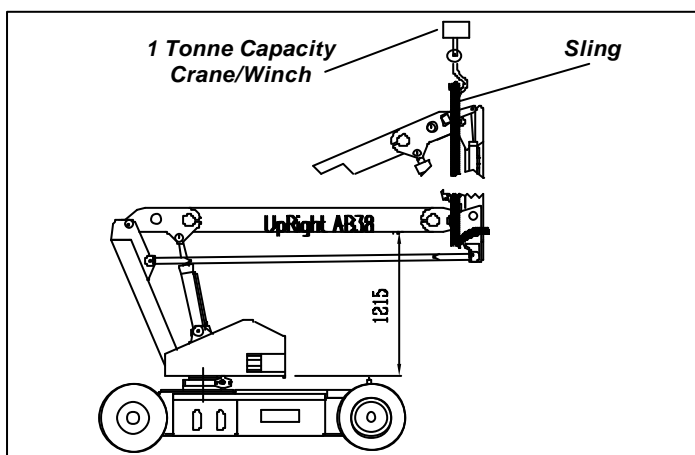

Figure 4-6: Supporting Elevating Assy.
4.6 Maintenance on Elevating Assembly (Figure 4-6)